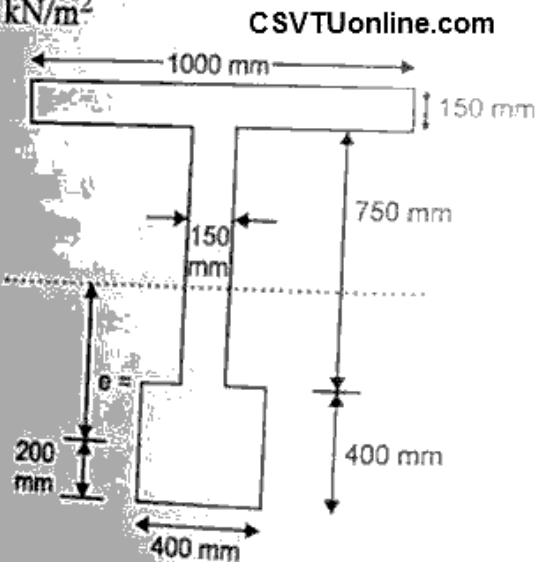

Figure-1
- (c) What are the merits and demerits of prestressed concrete? The Figure-1 shows the mid-span cross-section of a prestressed post-tensioned beam at span 24 m. There are 6 cables each of 12 wires at 5 mm diameter and one stressed with initial prestress at 1150 N/mm^2 . Assuming an effective prestress at 1000 N/mm^2 after all losses have taken place, compute the extreme fiber stresses in concrete. The profile at the cable is parabolic with zero eccentricity at the ends. It carries a live load at 9 kN/m in addition to its own weight. Take unit weight of concrete as 24 kN/m^3